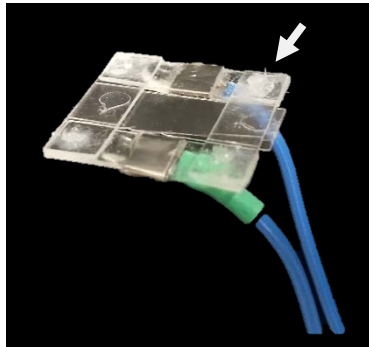

Figure 2. Stimulator Insert: Bottom face corners with a drop of grease (white arrow).
3. Add a drop of grease to every corner (bottom face) of the 'Stimulator insert' (Figure 2).